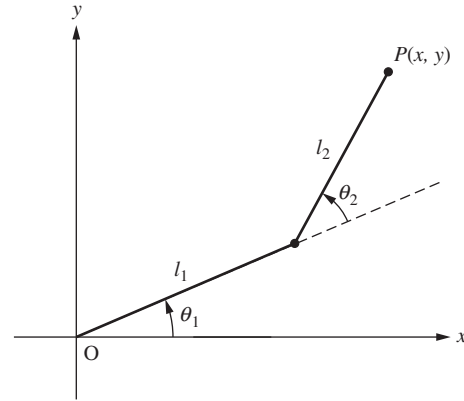

Figure P3.18 A two-link planar robot for problem P3-18.
- 3-18.** Consider the two-link planar robot shown in Fig. P3.18.
- 3-19.** Suppose that the two-link planar robot shown in Fig. P3.18 is located in the first quadrant and is oriented in the elbow-up position. If the tip of the robot is located at the point $P(x, y) =$
- 3-20.** Suppose that the two-link planar robot shown in Fig. P3.18 is located in the first quadrant and is oriented in the elbow-down position. If the tip of the robot is located at the point $P(x, y) = (10, 5)$, determine the values of θ_1 and θ_2 . Assume $l_1 = 6$ in. and $l_2 = 8$ in.
- 3-21.** Consider a two-link planar robot, with positive orientations of θ_1 and θ_2 as shown in Fig. P3.18.
3-25. Consider a two-link planar robot, with positive orientations of θ_1 and θ_2 as shown in Fig. P3.18.
3-27. Consider a two-link planar robot, with positive orientations of θ_1 and θ_2 as shown in Fig. P3.18.